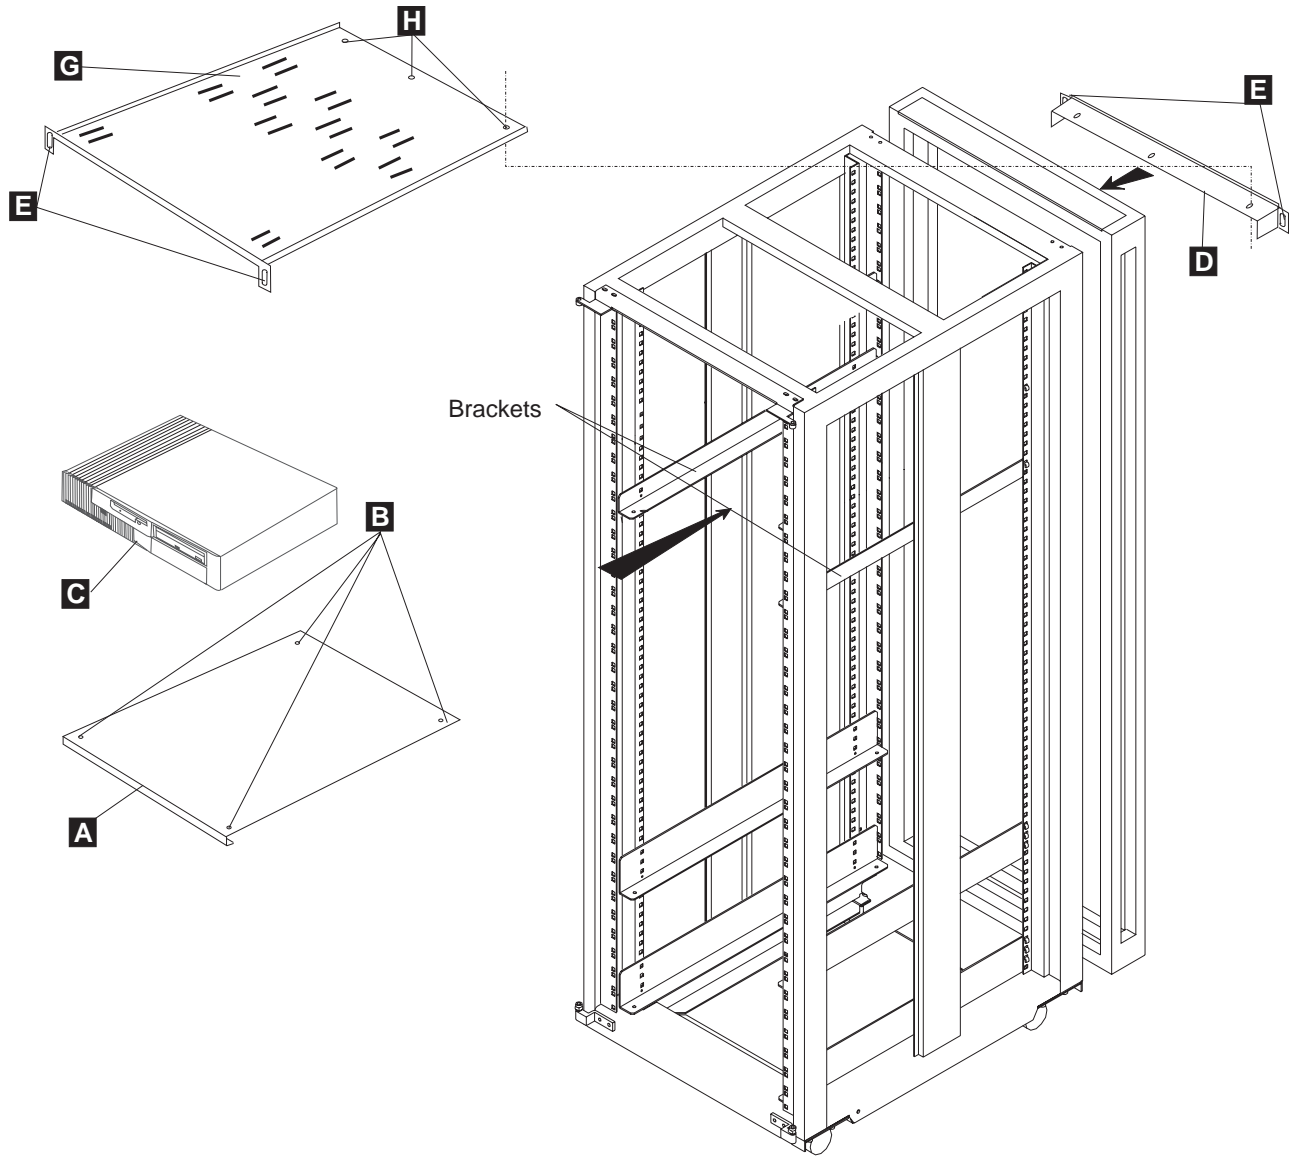
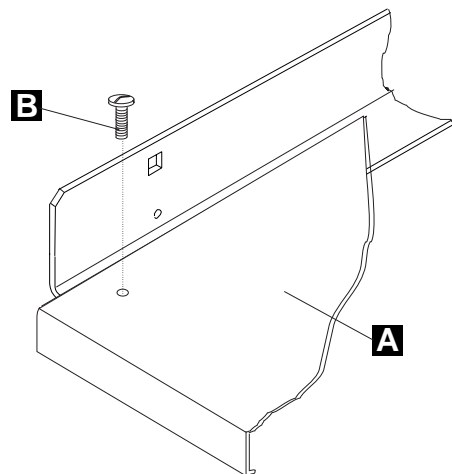

Figure 1-11. Lower and Upper Plate Installation in 37 U Rack (Earthquake)
Figure 1-12. Detail of Lower Plate Installation
3. ____ Install the lower plate (PN 42L2850) **A** on the brackets, and secure it using screws M6 (length: 8mm) **B** (refer to Figure 1-11 on page 1-9, and Figure 1-12 on page 1-9).
7. ____ Secure the upper plate **G** on the front of the rack with screws (PN 43G3084) **E**, and on the support **D** with screws M4 (length: 8mm) **H** (refer to Figure 1-11 on page 1-9).